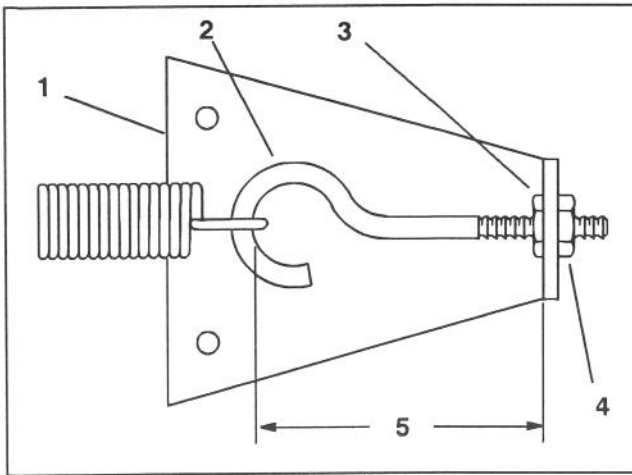

Figure 64
CHECKING AND ADJUSTING TRACTION LINKAGE (Fig. 64)
4. Rotate, clockwise, until distance between inside of eye bolt loop and inside of spring anchor plate is shortened 1/8", as shown in figure 64. Tighten hex nut.